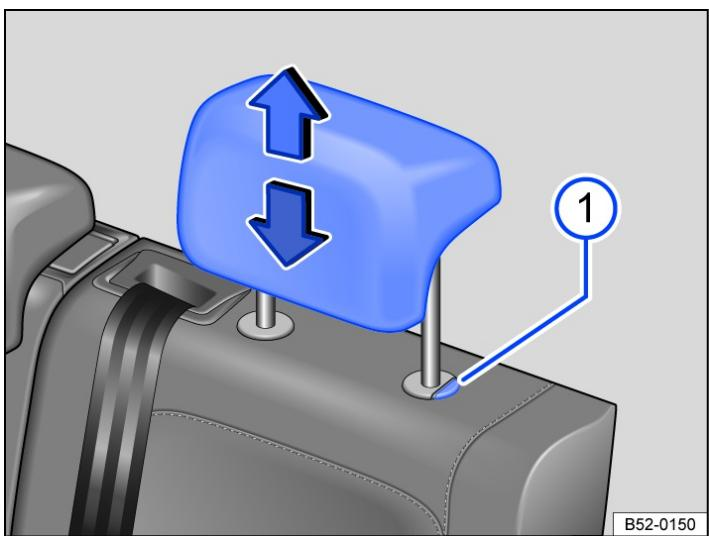

Fig. 2 Rear head restraint: adjusting.
- While pressing the button → Fig. 1 1 or → Fig. 2 1 if necessary, push the head restraint up or down in the direction of the arrows →  in *Introduction to the topic*.